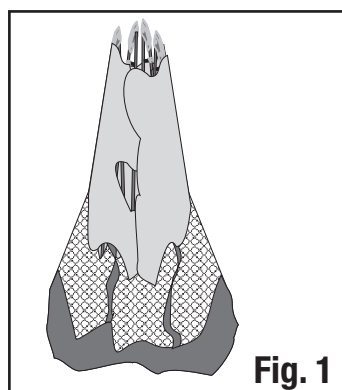

Fig. 1
- Stand the screenhouse upright with the hub assembly at the top. (Fig. 1)